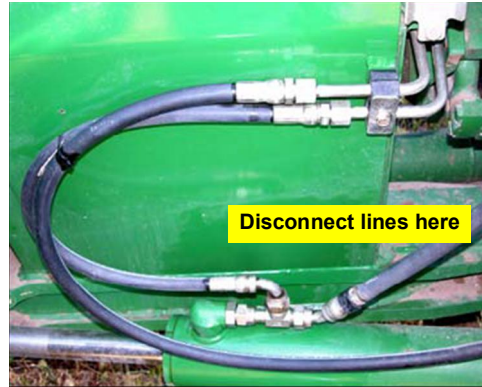

Figure 4a: Steering lines - junction of steel and rubber sections
- a. Locate the steering lines on the right side of the tractor on the center section above the right steering cylinder (Figure 4a). Disconnect the steering lines at the junction of the steel and rubber sections.